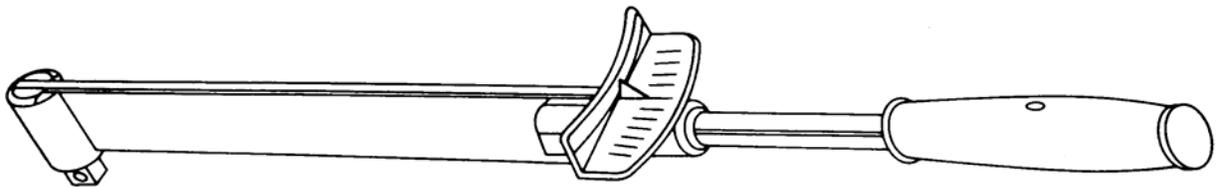

Figure 1. Type I, class 1, style A torque wrench, deflecting beam with indicator plate (direct reading).
**Torque Wrench, Direct Reading:** (figures 1, 3, and 5). Gradually apply perpendicular force on handle of TI until indication in (1) above is obtained.